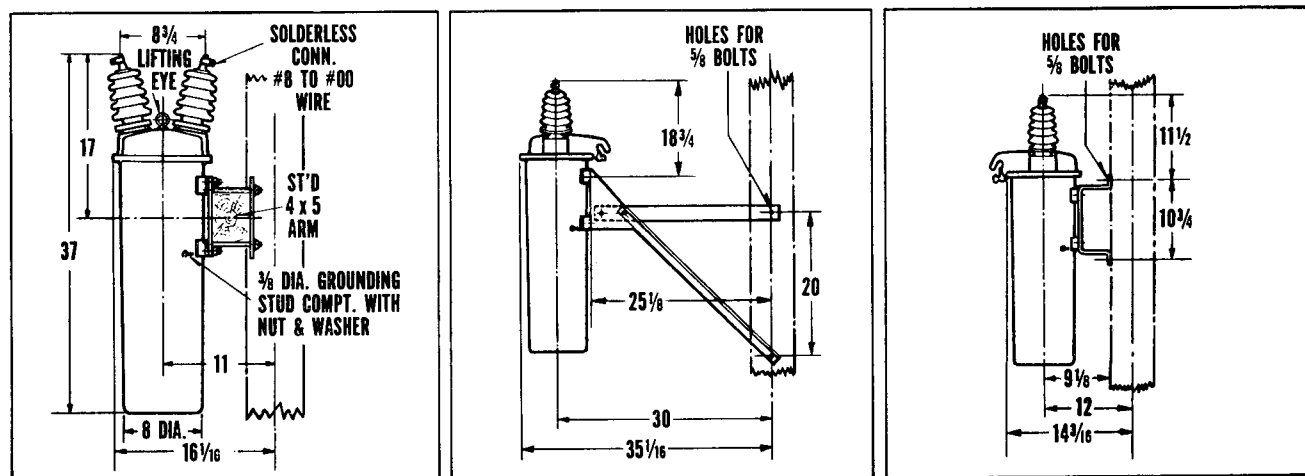

FIG. 4. Crossarm and Pole Mounting Details
**To Place In Service.** The Type GR Recloser is initially closed by an upward push with a hook stick on the combination operating handle and position indicator (see Figure 4). This permits the contacts to close and place the recloser in service.